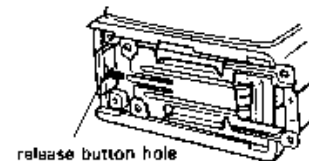

Fig 4.
- Fit the end of the terminal plate into the release button hole and tighten the screws (Fig. 4).